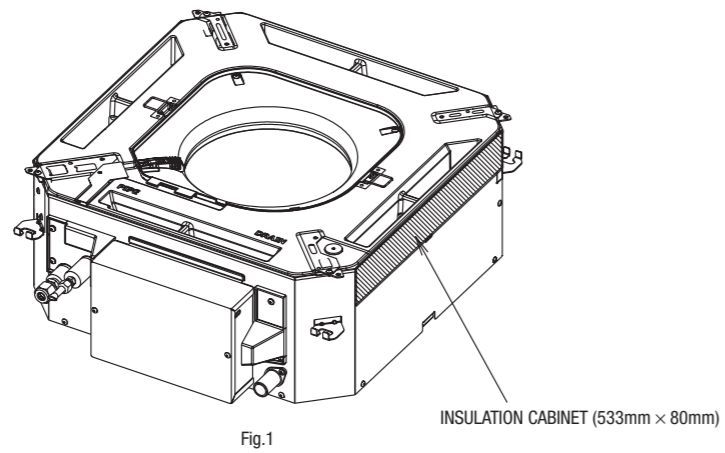
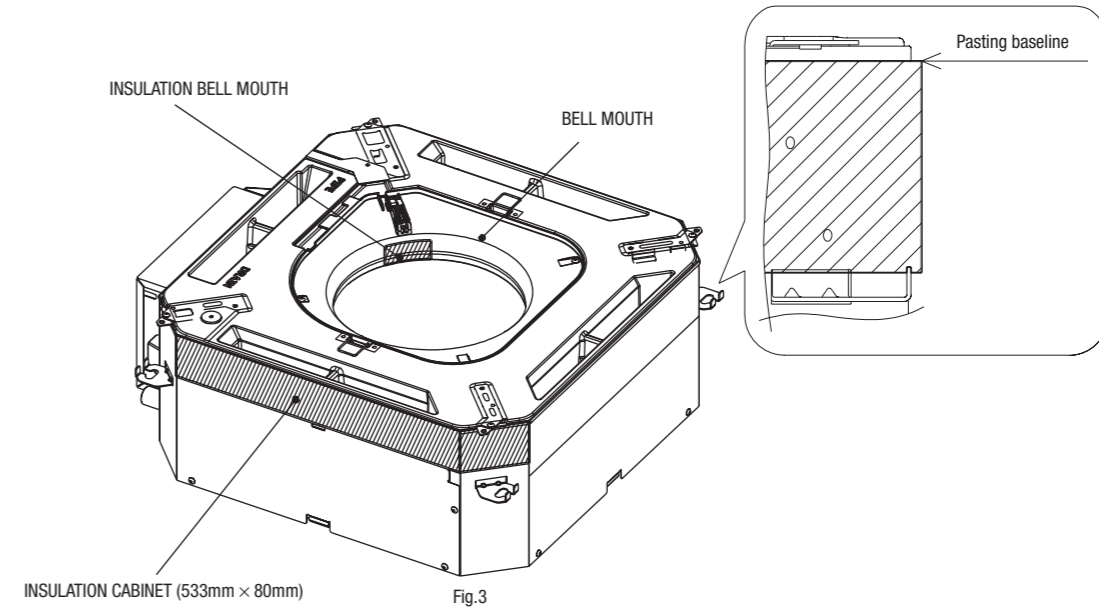

Fig.1
Fig.3
**② Attaching INSULATION CABINET**
(1) As shown in the Fig.1, 2 and Fig.3, attach the INSULATION CABINET.